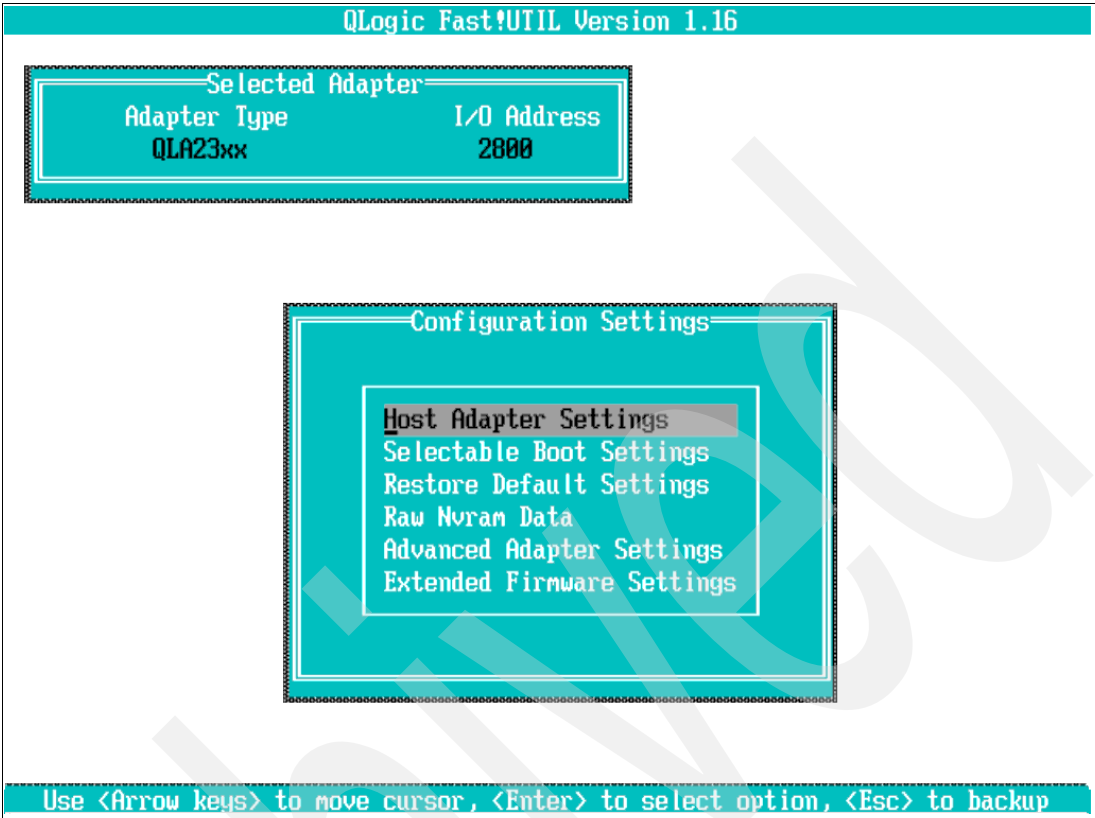

Figure 27-36 Configuration Settings menu for second HBA adapter
2. In the Configuration Settings menu, shown in Figure 27-36, select **Adapter Settings**.